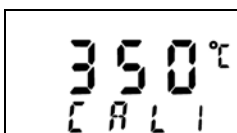

Fig.12
1 In the main menu, press knob for 6 seconds into the "CALI" mode (see Fig.12), rotate around the shuffle knob and input the real temperature.
3.2. When "CALI" status display "H" or "HH" (see Fig 14.),it means "Real Temp." has calibrated and increase temperature. For example : "set.Temp" is 350°C, "Real Temp." is 320°C, after temperature calibration as Fig 12.,temperature will rise to 350°C.